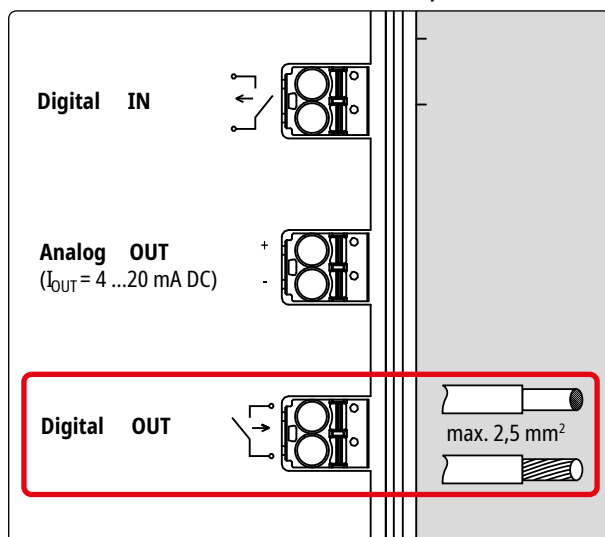

Figure 13
- ➔ An external **failure mode relay** (e.g. switch contactor) can be connected on a higher level to ensure personal protection (see Fig. 13).